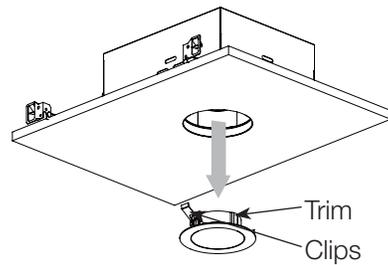

Figure 13
3. Field replace reflector (Figure 13).